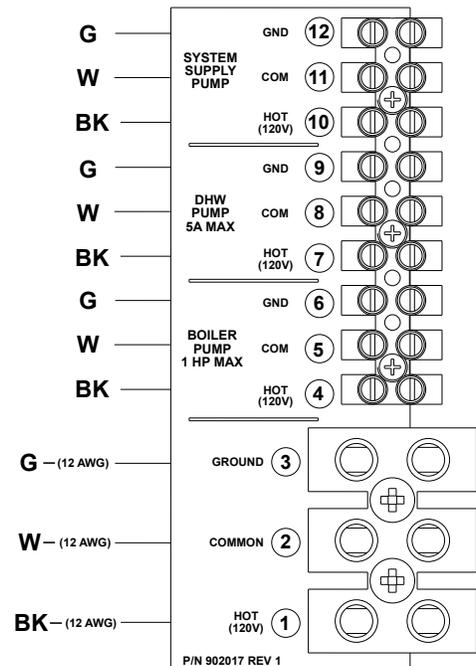

Figure 22. XFire Cascade Master Pumps
1. On the boiler designated as the Master, connect the system pump wiring to the terminal block at the rear of the unit. Connect to terminals 10, 11, and 12. See **Figure 22**. The output is rated for pilot duty only (2A maximum).
2. Connect the boiler pump wires to the terminal block at the rear of their unit. Connect to terminals 4, 5, and 6. See **Figure 22**.